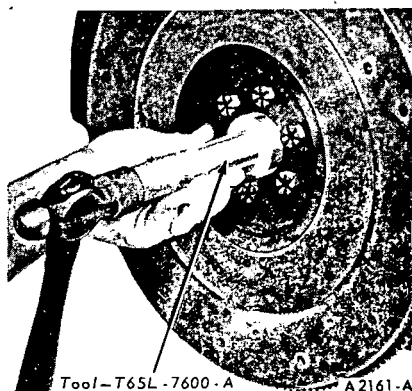

FIG. 51—Typical Clutch Pilot Service Bearing Installation
4. Using tool T52T-12175-AJD, install the pilot service bearing (Fig. 51).